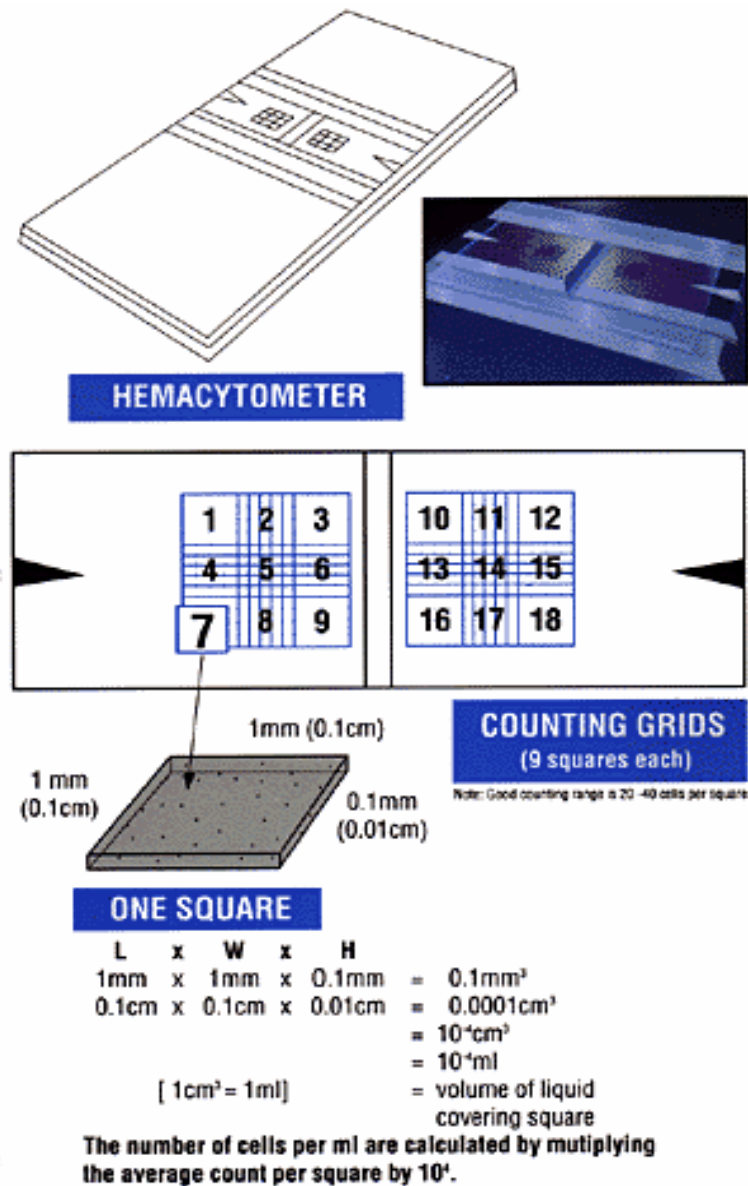

Figure 11.5-A: Counting Cells using a Hemacytometer
- 11.5.5.3. Count the cells and determine the number of cells per ml (Figure 11.5-A).